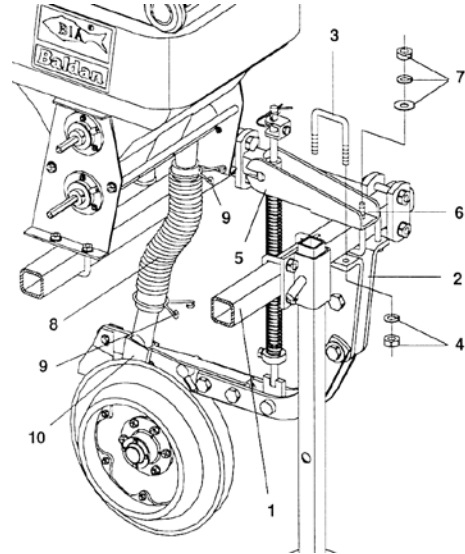

Figure 5
*Make the connection of hoses between each tank outlet up to the nearest double disc, preventing them from getting bent or folded, as shown in figure 5.*